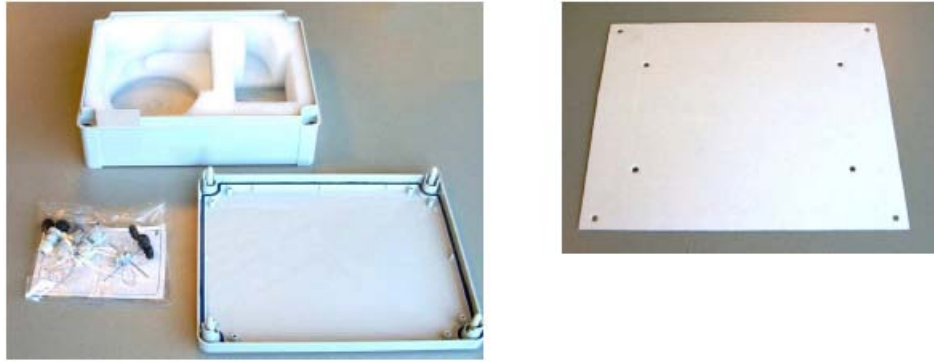

Figure 59: Contents of the box
2. Remove the cover from the cabinet. The contents of the cabinet is shown in Figure 59: Contents of the box on page 218.